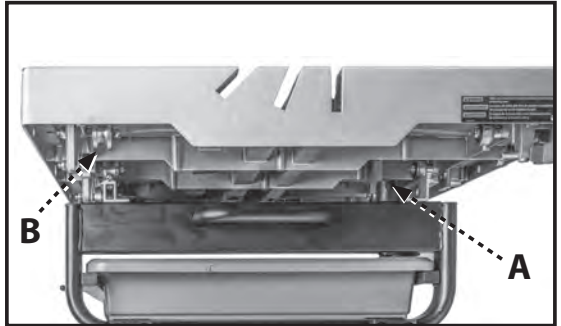

FIGURE 8
1. Position the slotted table lock (A, Fig. 8) in the open position so that the groove is parallel to the rails on the main frame.
2. Position the worktable (9) so that the two left bearings (B, Fig. 8) on the bottom engage, one over and one under, with the left rail of the main frame. The wheel on the right side of the worktable should ride along the top of the right rail on the main frame.